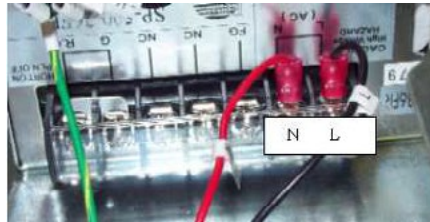

Figure 1 - Power Switch Interface Harness Wiring to Power Supply
2. Install the replacement harness to the bottom wiring block as shown in Figure 1 above. Tighten the screws in the wiring block just enough to hold the wire connectors securely.